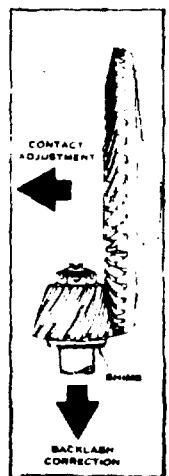

Figure 10 - Tooth Contact
**d. Note the nature of tooth contact as shown In sketches of figure 10. Make necessary adjustments to obtain correct tooth contact as shown In sketch "A "**